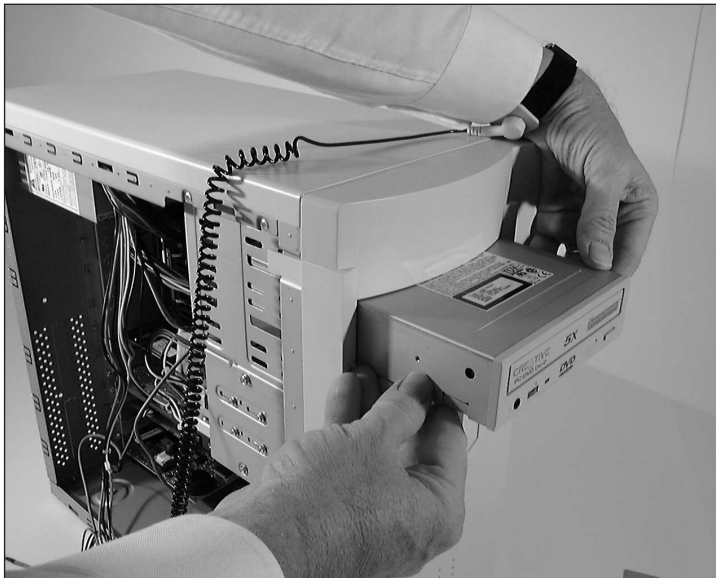

Figure 15-46 Slide the DVD drive into the bay
- Slide the drive into the bay from the front of the bay (Figure 15-46).